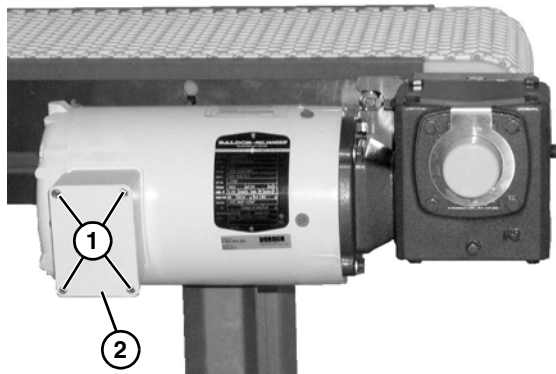

Figure 37
1. Loosen terminal box screws (**Figure 37, item 1**) and remove cover (**Figure 37, item 2**).